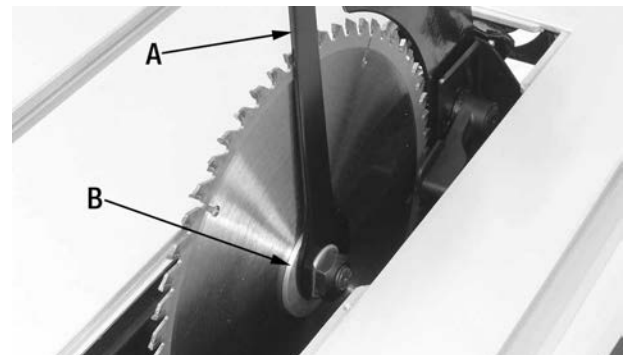
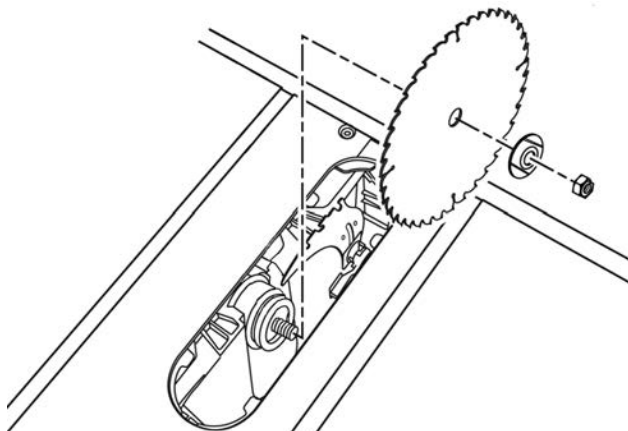
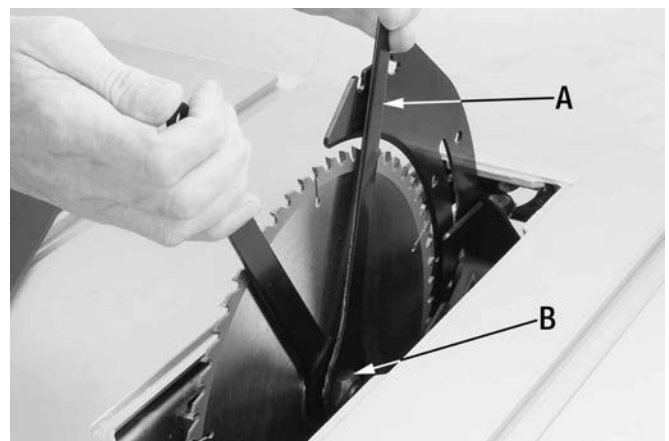

FIGURE 18
FIGURE 20
FIGURE 19
3. Place the open end of one of the adjustment wrenches (A) Fig.18 on the flat portion of the outer flange (B) to prevent the saw arbor and blade from rotating.
4. Then place the other open end adjustment wrench (A) Fig.19 on the arbor nut (B) Fig.19 and turn the arbor nut counterclockwise, remove arbor nut and outer flange (B) Fig.18. Refer to illustration in Fig.20.